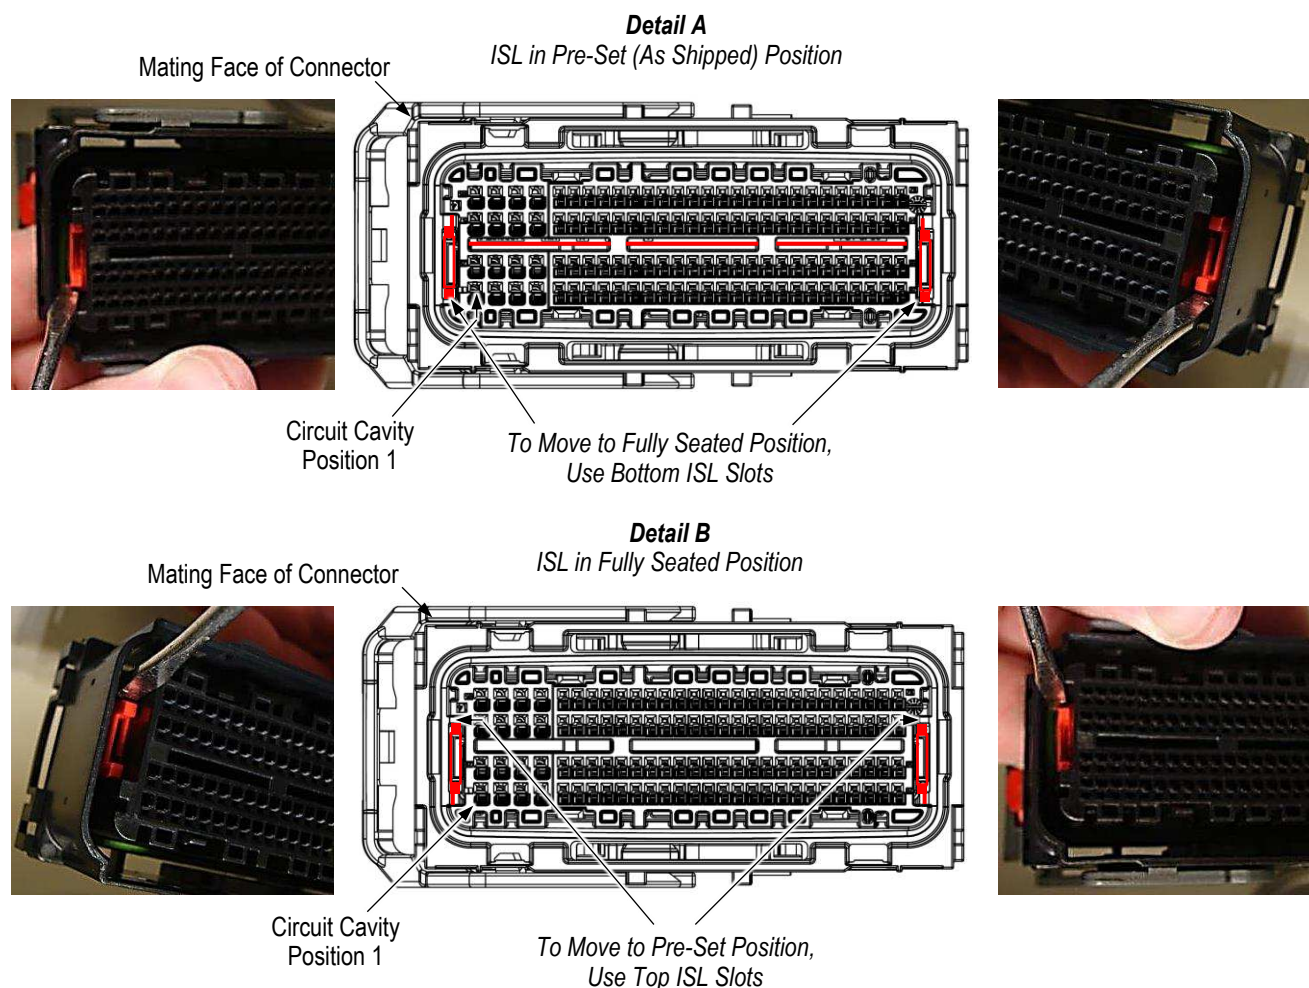

Figure 2
The ISL is in the pre-set position when, from the mating face of the connector, the red ISL is visible in the connector center slots as shown in Figure 2, Detail A. If it is not, from the mating face of the connector with circuit cavity position 1 oriented at the bottom left, alternately insert the tip of a small screwdriver into the top ISL slots and move the ISL down until it stops. There will be an audible click from each side.
The ISL is in the fully seated position when, from the mating face of the connector, the red ISL is not visible in the connector center slots as shown in Figure 2, Detail B. To move the ISL to the fully seated position, from the mating face of the connector and the connector oriented with circuit cavity position 1 at the bottom left, alternately insert the tip of a small screwdriver into the bottom ISL slots and move the ISL up until it stops. There will be an audible click from each side.
4. Insert the terminal into the cavity until it bottoms. There should be an audible or tactile click when the terminal is locked into place. Gently pull the wire to ensure the terminal is locked into place. If the terminal does not lock into the cavity check to verify that the ISL is open per figure 2 and that the terminal is in correct orientation to the circuit cavity per figure 3 and re-insert the terminal. For circuits with individual wire seals, check to ensure that the seal is below the top of the circuit cavity after successful insertion of terminal.